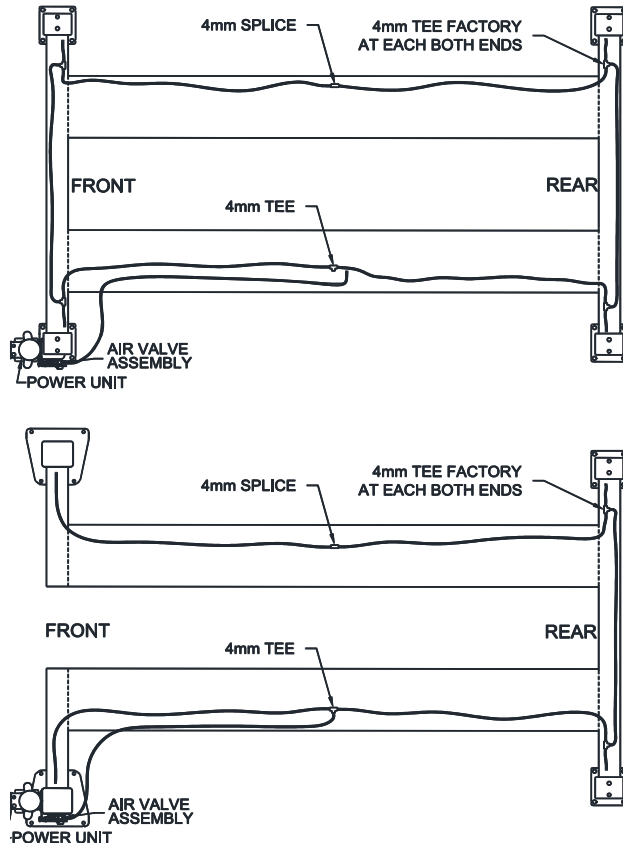

Fig 17 – Lock Release Air Line Routing
- 41) Install 4mm air line from air valve assembly thru opening in runway to Tee. See **Fig 17**